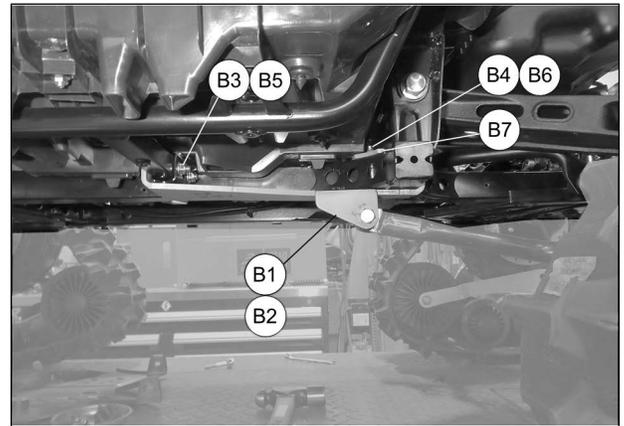

Fig. 14
12. Final installation of rear anchor plates (B1-B2) under vehicle: M8 bolts (B3) & nuts (B5) facing front, cover plates (B7), M10 bolts (B4) and nuts (B6) facing rear. See Fig. 14